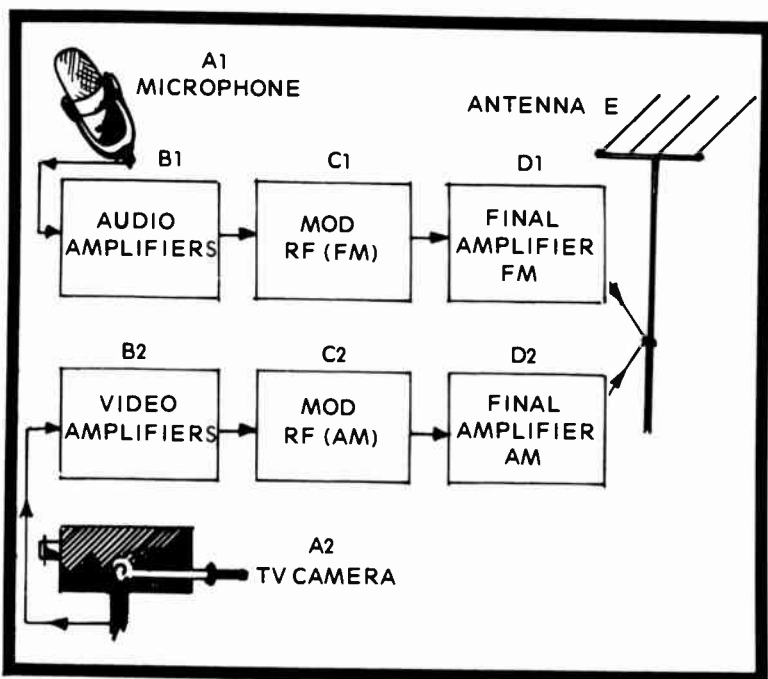

Fig. 1-4. Simplified block diagram of a TV transmitter, showing separate sound and picture paths combined before reaching the transmitting antenna.
Fig. 1-4 shows, in simplified form, the sequence of functions and their combination into a single final signal for transmission. Notice that the sound part of the system resembles very much the ordinary radio (AM) described previously. However, instead of being applied to the antenna system directly, the sound signal (this time an FM system) is combined with the TV picture signal and then both are amplified as an integrated signal and applied to the transmitting antenna. For all practical purposes, this is now a single radio signal containing all the information necessary to reproduce a TV picture, both sight and sound.